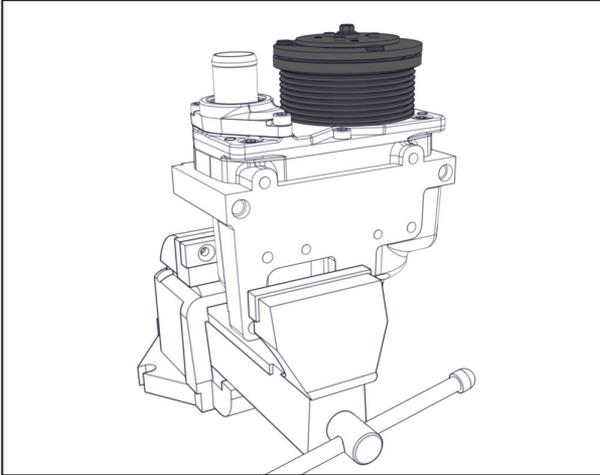

Figure 1 — Place compressor in vice
- Remove the compressor from the vehicle and place the compressor in a vice with the clutch facing up (Figure 1).